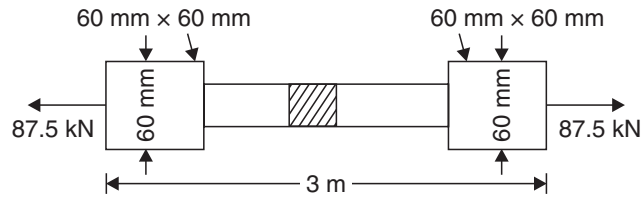

Fig. 12.28
5. A tie bar has enlarged ends of square section  $60 \text{ mm} \times 60 \text{ mm}$  as shown in Fig. 12.28. If the middle portion of the bar is also of square section, find the size and length of the middle portion, if the stress there is  $140 \text{ MN/m}^2$ , the total extension of the bar is 0.14 mm.